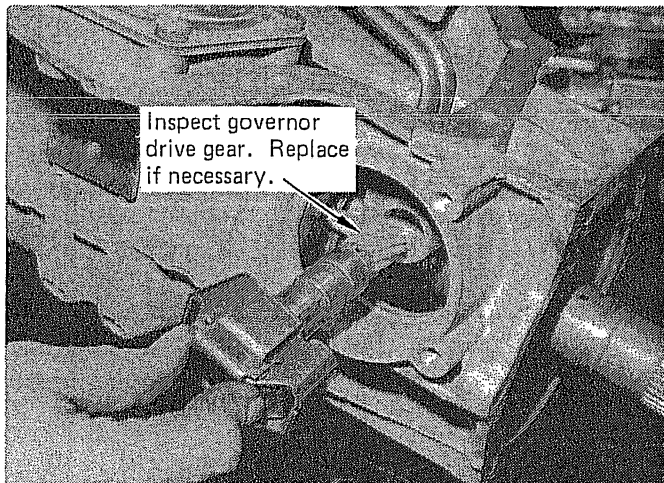

FIGURE 58
**STEP 32.** Inspect governor for damage. Replace as necessary. Lubricate governor bore with automatic transmission fluid and install governor assembly. (See Fig. 58) Install governor cover and gasket. Tighten four bolts 18 to 20-ft. lbs.